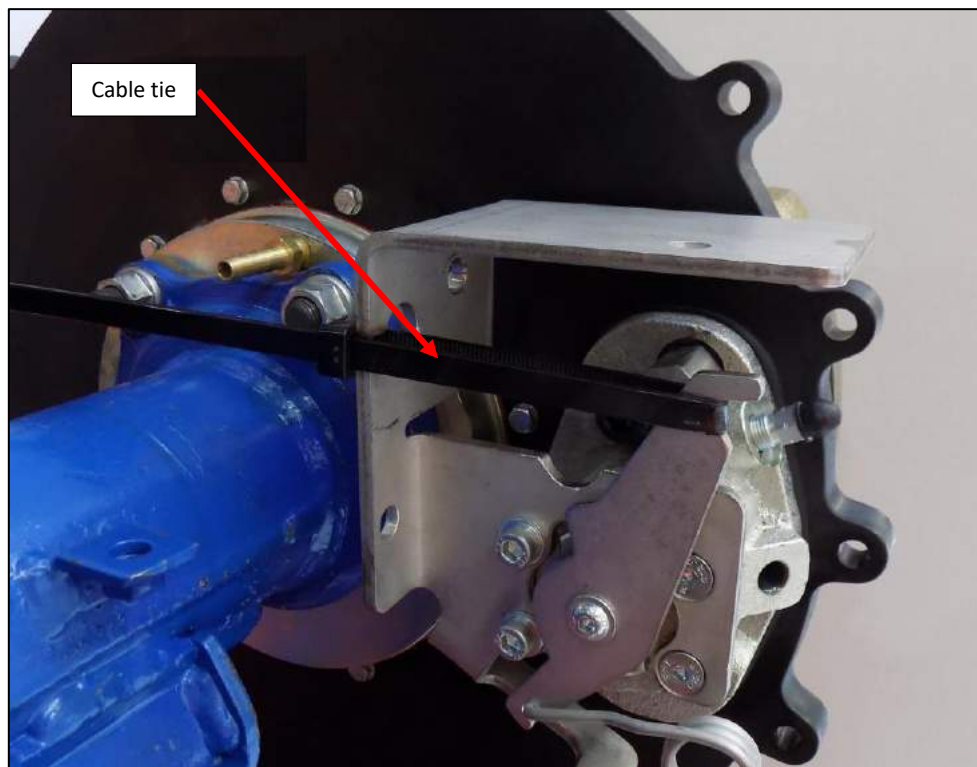

Figure 15
26. Carefully remove the locking cable tie from the park-brake lever on the brake unit (Figure 15).